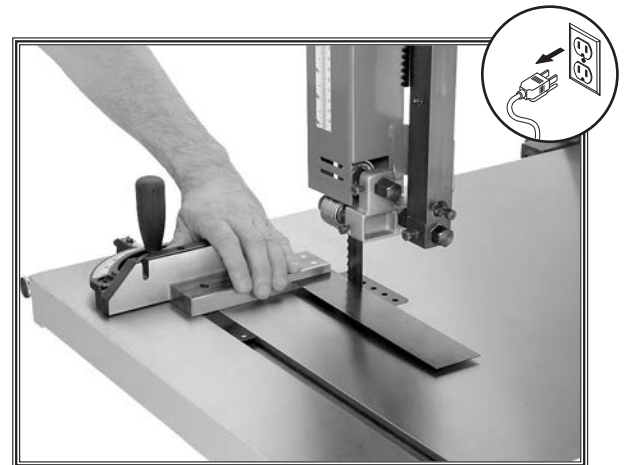

Figure 23. Aligning the miter gauge body with the blade.
4. Lay the machinist's square flat on the table and up against the blade without touching any blade teeth (see **Figure 23** for an example).